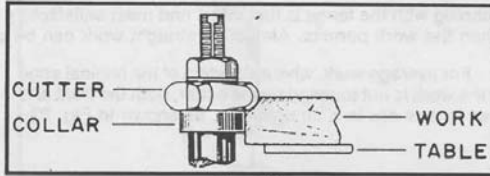

Fig. 30
2. When the collar is used below the cutter, as shown in Fig. 30, the progress of the cut can be observed at all times. However, any accidental lifting of the work will gouge the wood and ruin the workpiece.